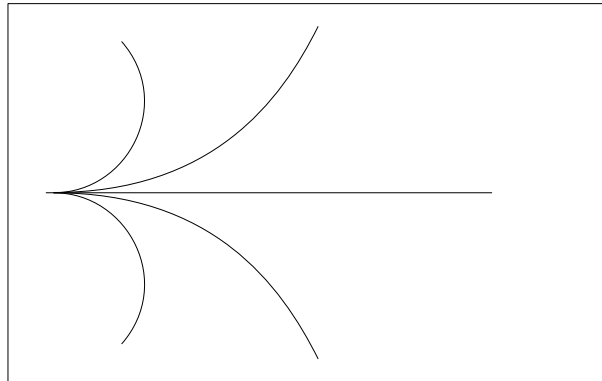

Figure 1: Robot trajectories for estimating the drive system characteristics.
2. Program your robot to follow trajectories as indicated in the figure 1. Use three different translational velocities v (excluding zero) and 5 different rotational velocities ω (including zero and symmetrical regarding clockwise/counter-clockwise, example: 20°/s, 10°/s, 0°/s, -10°/s -20°/s). In total these are 15 v, ω combinations, each will later be executed 10 times.